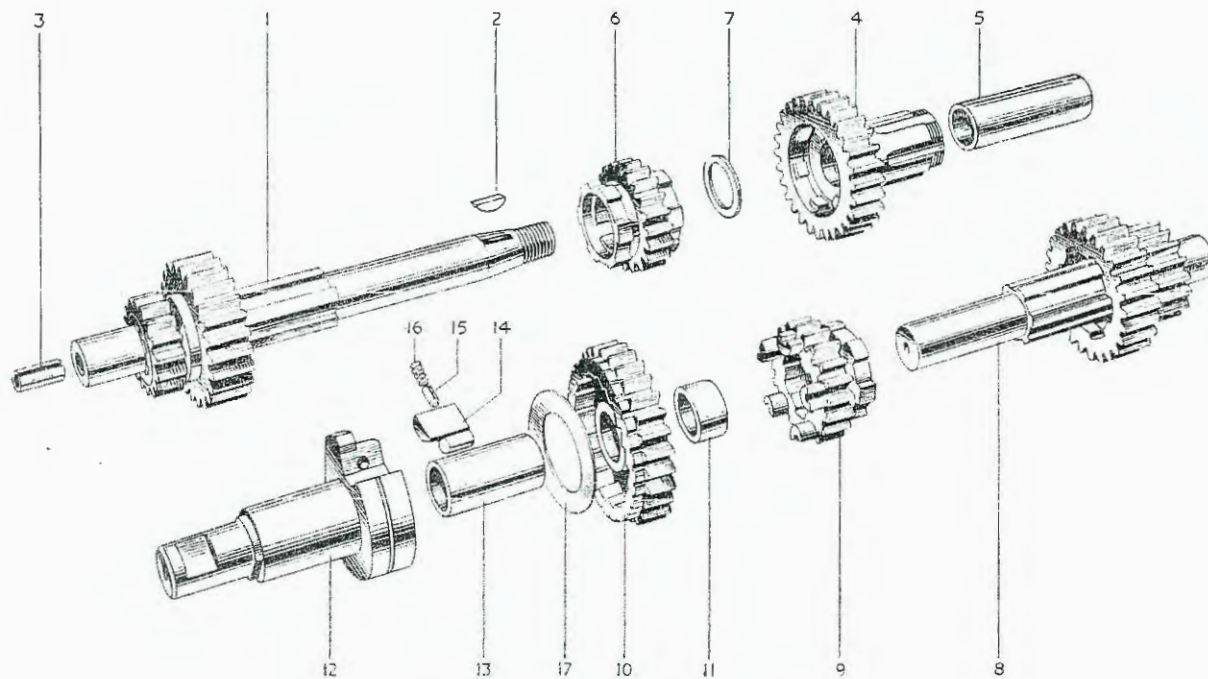

FIG. 2. MAINSHAFT AND LAYSHAFT GEARS.
*Illustrated on Pages 14 and 17—Figs. 2 and 3*